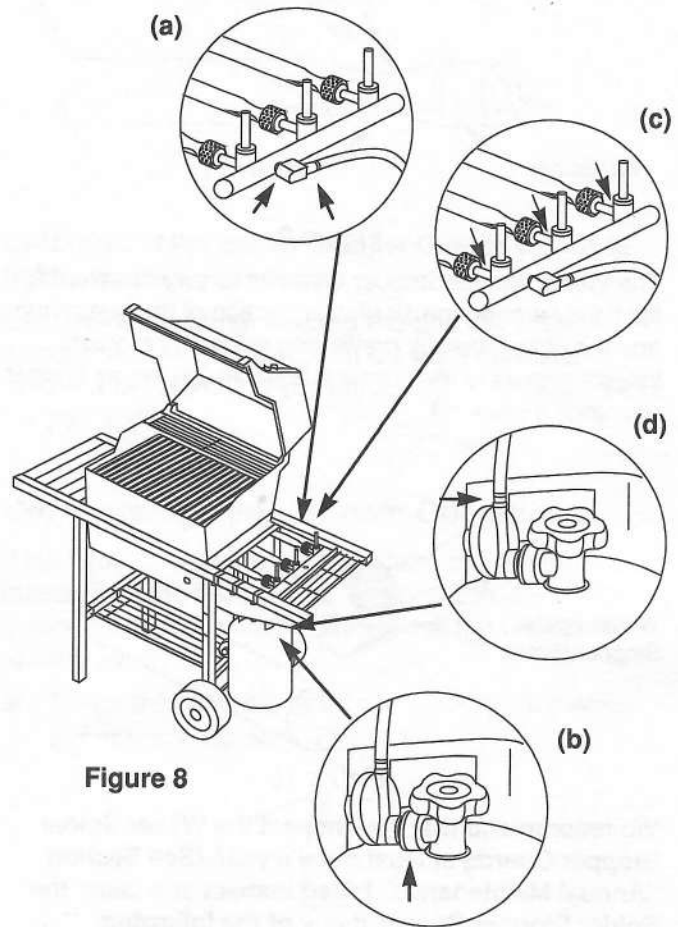

Figure 8
- a) Hose to manifold connections. Figure 8 (a).
- b) Regulator to tank connection. Figure 8 (b).
WARNING: If there is a leak at Figure 8 (a) or Figure 8 (b), retighten the fitting with a wrench and recheck for leaks with soap and water solution.
c) Valves to manifold connection. Figure 8 (c).
d) The hose to regulator connection. Figure 8 (d).
WARNING: If there is a leak at Figure 8 (c) or Figure 8 (d), turn OFF the gas. **DO NOT OPERATE THE BARBECUE.** Contact your dealer.